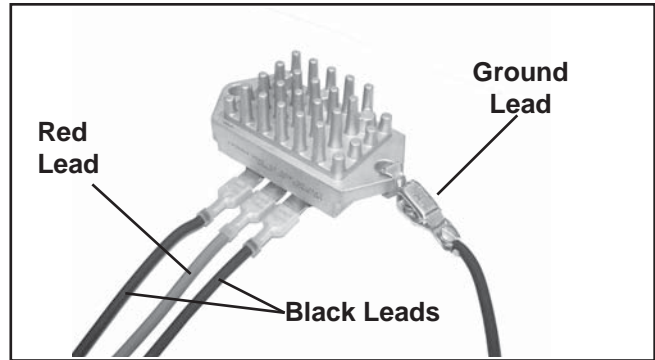

Figure 7-6. Connecting Leads to Rectifier-Regulator.
3. Connect the two black leads from the tester to both of the outer AC terminals on the rectifier-regulator. See Figure 7-6.